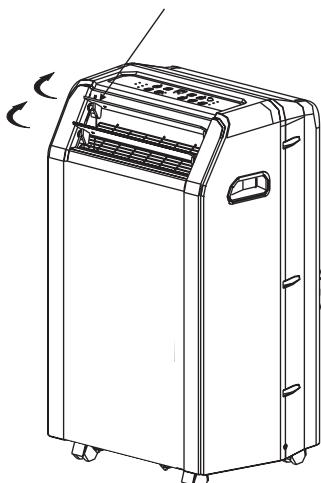

Fig. 6
- Adjust the air flow direction automatically (Fig.6):
- If keep pressing the SWING button more than 2 seconds, the auto swing feature is activated. The louver swings as shown in Fig.6